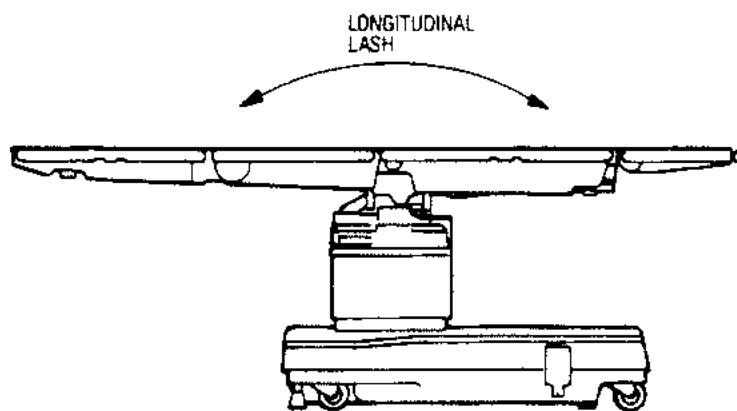

Figure 9-2. Longitudinal Lash
- a. **Longitudinal Lash* and Rigidity** (see Figure 9-2): Hang or apply 50 lbs of force on the end of the headrest on the table centerline. Measure the amount of vertical movement at the outboard end of the left back-section siderail when the 50-lb (22.7 kg) weight is moved to the end of the leg section on the table centerline. The measurement shall not exceed 1/4" (6 mm).